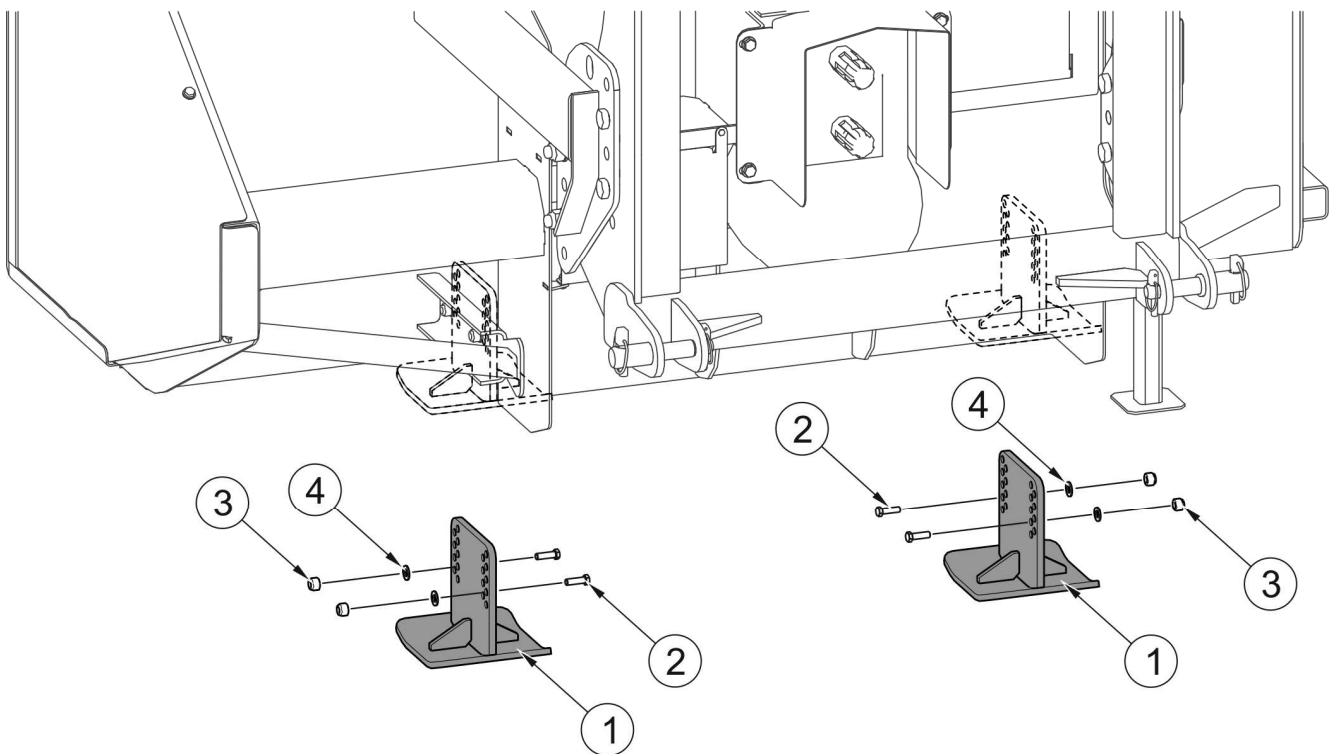

FIG. 5.6 Skid replacement
Excessively worn or damaged skids must be replaced. In order to do this raise the snowblower and support with sufficiently stable and strong supports. If the machine is hitched and raised on the linkage, protect it from falling and immobilise the carrying vehicle (turn off the engine and engage the parking brake.) Remove the nuts (4), remove the bolts (3) mounting skid (1) to the frame (FIG. 5.6). The list of skid elements with catalogue numbers is shown in TAB. 5.3.